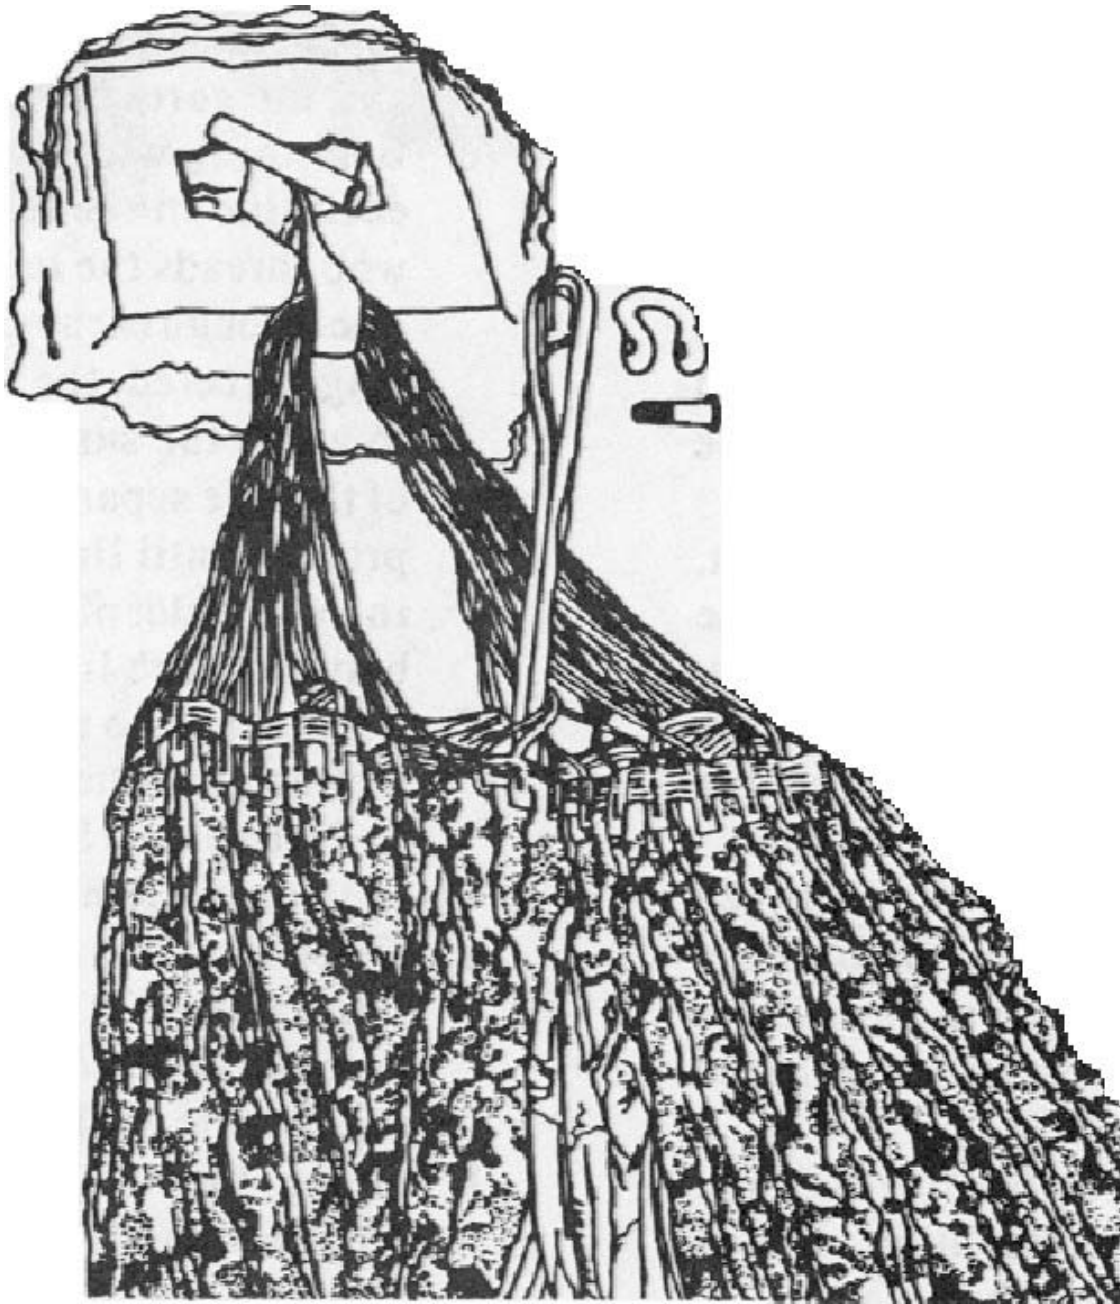

Figure 3-21
- a. Disconnect the bridle loop from the stationary post, and dress the upper lateral band making sure the vent lines are centered and separated. (See Figure 3-21)